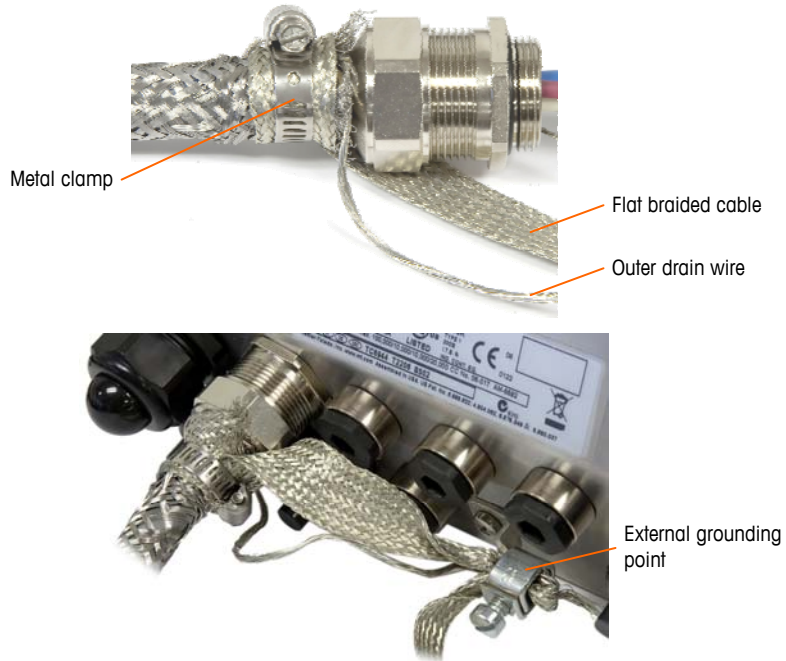

Figure 2-49: PDX Home Run Outer Braid Termination, Harsh Enclosure
- c. Pull the outer braid forward to cover the brass sleeve and wrap one end of a flat braided ground cable over it before securing everything down using the metal clamp (Figure 2-49). Route the home run cable's outer drain wire along with the flat braided cable through a ground lug attached to the rear of the harsh enclosure. The other end of the flat braided cable is terminated at the ground rod.